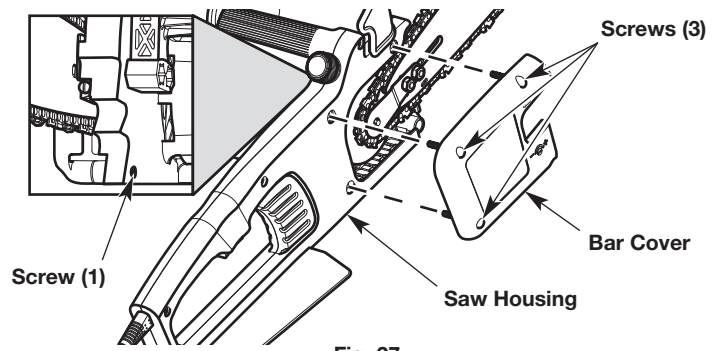

Fig. 27
1. Use a Phillips screwdriver to remove the four (4) screws that hold the bar cover in place (Fig. 27).
3. Use a 7/16 inch (11 mm) wrench to slightly loosen the bar-retaining nuts (Fig. 27). **DO NOT** remove the bar-retaining nuts.
4. Tighten the bar-retaining nuts hand tight (Fig. 27).
8. Place the bar cover onto the saw housing (Fig. 27). Align the holes in the bar cover with the holes in the saw housing.
9. Insert the four (4) screws into the aligned holes. Tighten the screws securely.